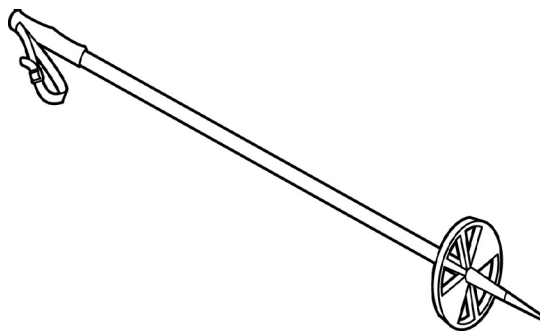

Figure 6. Ski Pole.
**Ski Pole.** The ski pole (Figure 6) is composed of a steel shaft, rubber grips, leather wrist straps, and rubber snow ring assembly.